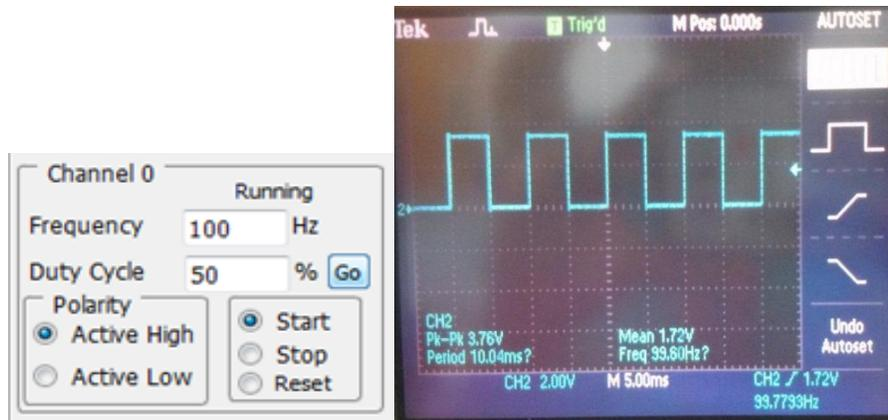

Figure 13: Starting the PWM
- The screen shot of the oscilloscope would be as shown in Figure 13.